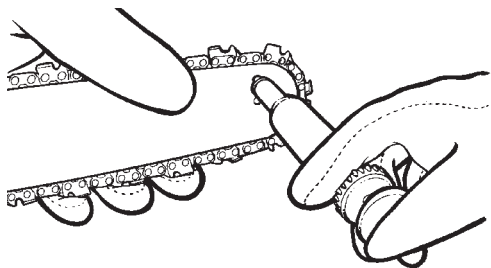

Fig. 41
3. Using the Lube Gun (optional), insert tip of lube gun into the lubrication hole and inject grease until it appears at outside edge of sprocket tip (Fig. 41).